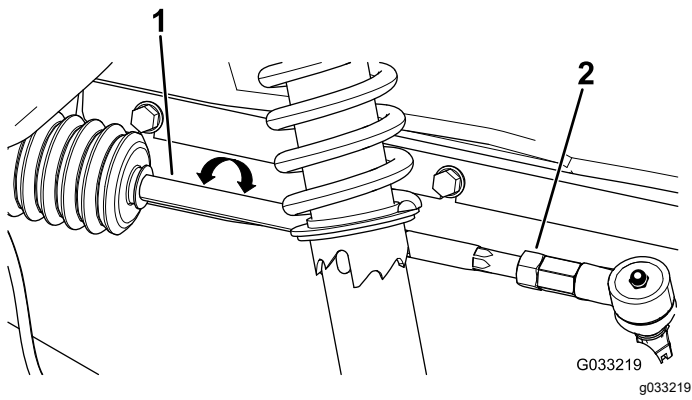

Figure 52
2. If the measurement does not fall within 0 to +/- 3 mm (0 to +/- 1/8 inch), loosen the jam nuts at the outer end of the tie rods (Figure 52).